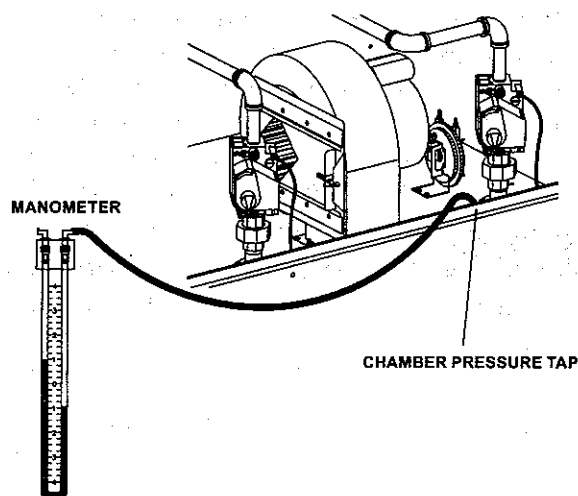

FIG. 26
3. Locate the air pressure switch located to the right of the combustion air fan. Trace the hose from the air pressure switch to the barb located in the top right front corner of the upper chamber. See Fig.26. Remove the hose from this barb and connect the hose from the manometer or magnahelic to this barb to measure the air pressure in the front chamber.